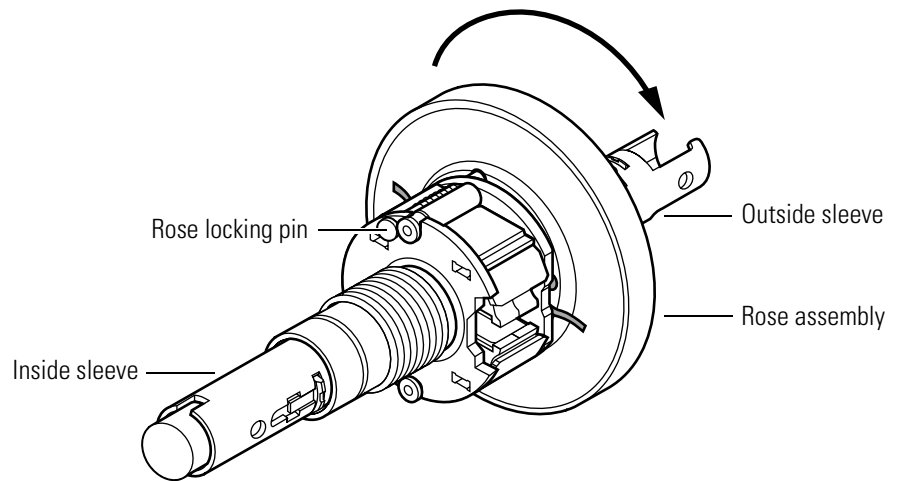

Figure 3.9 Removing the outside rose assembly
3. Retract the rose locking pin, and rotate the rose assembly until it is free from the hub. See Figure 3.9.